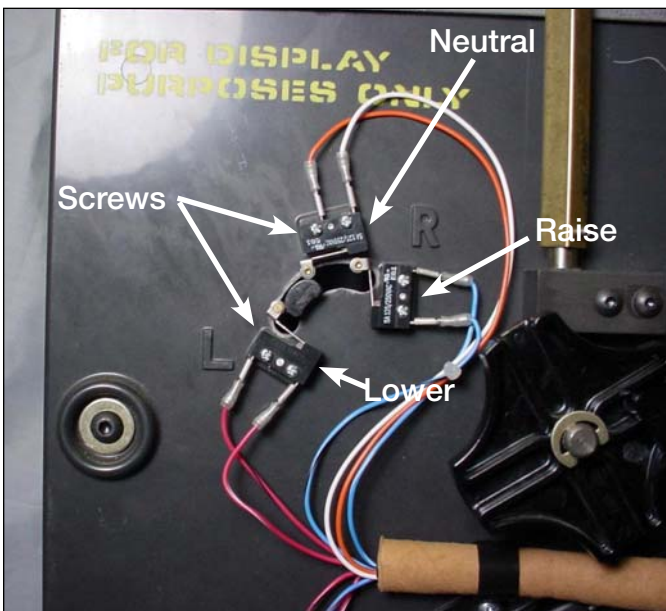

Figure 9.
- After removing the tap changer from the regulator assembly, use a Phillips one point screwdriver to loosen and remove the six screws mounting the Reversing Lower, Raise and Neutral switch located in the upper left corner of the tap changer assembly. See Figure 9.